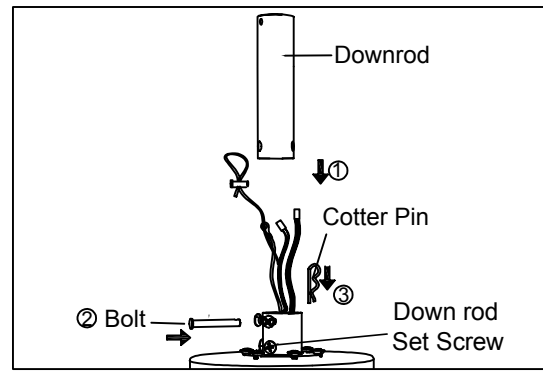

Figure 1.2
- Insert the downrod in the coupling. Align the holes and get the bolt through the coupling and the downrod. Secure the bolt with the cotter pin. Tighten the two set screws in the coupling.(Figure 1.2)